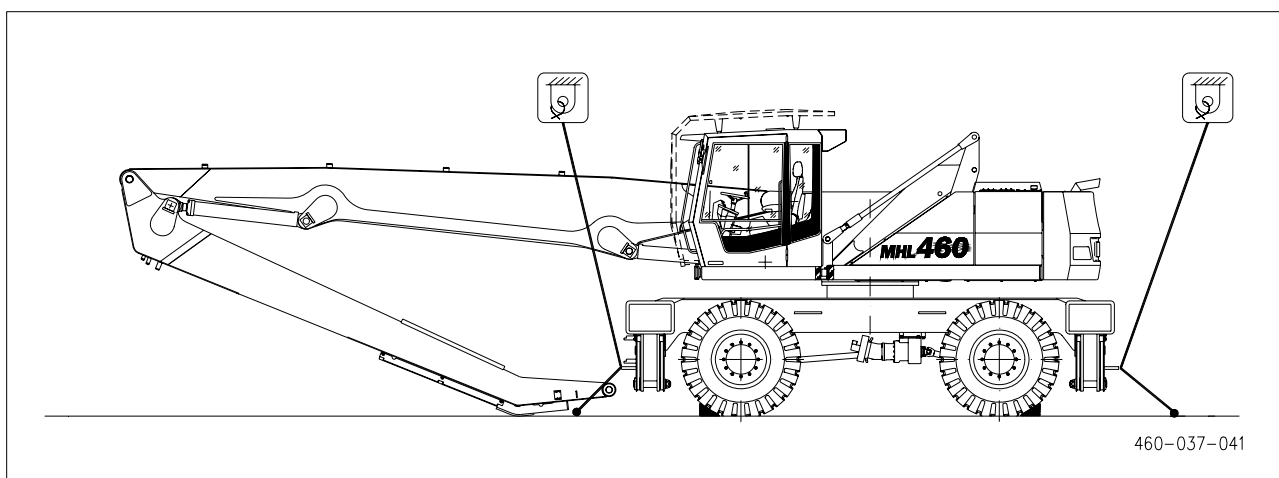

Fig. 41 Loading onto a flat-bed trailer or train
For transport on a flat-bed trailer or train wagon, the machine must be lashed in place so that it cannot move. The machine is equipped with two lashing points for this purpose (see fig. 41).
- Attach ropes or chains to the lashing points and secure the machine on the loading area (see fig. 41).
Bring the work equipment to the transport position, as for loading onto a flat-bed trailer (see fig. 41).